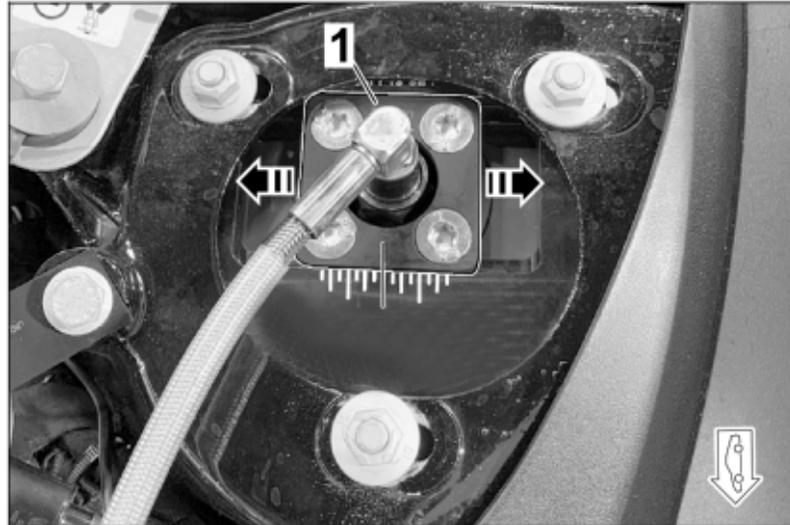

Figure 11
9. – Camber adjusting plate on the support bearing (⇒ *Figure 11 -1-*) starting from the outer stop (minimum camber) is in position as shown ⇒ *Figure 11*. Tighten the four screws on the camber adjusting plate. **Screw: Tightening torque 25 Nm (18.40 ft-lb)**